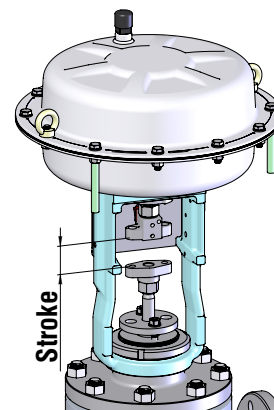

Figure 7: Stroke adjusting
3. Mount the actuator / yoke and yoke lock nut (76) onto the valve bonnet.
6. Mount the lock nut (113) and lower coupling (345) onto the valve stem.
8. Adjust the distance between the lower coupling (345) and the upper coupling (249) with the aid of an adapter in stroke height (Figure 7).
10. Mount the cap screws (240).
11. Lock the lock nut (113). Secure the upper coupling (249) against turn unwanted with a wrench.